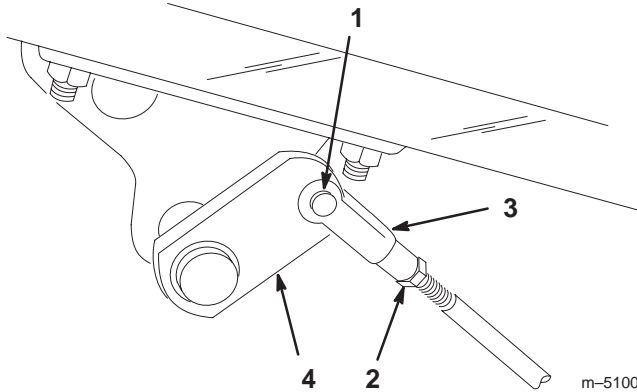

Figure 42
2. If the brakes do not lock equally, disconnect the brake rods by removing the cotter pin and clevis pin (Fig. 42).
3. Loosen the jam nut and adjust the clevis accordingly (Fig. 42).
4. Assemble the clevis to the brake shaft (Fig. 42).